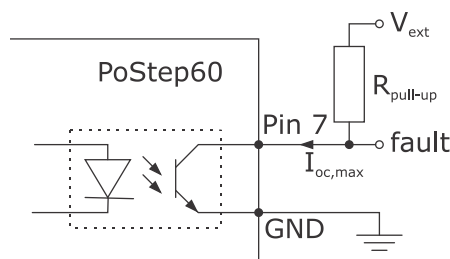

Figure 2: Fault feedback pin connection diagram
*Fault feedback signal is an open-colector signal. External pull-up resistor is needed to function properly (please see Figure 2). For input and open-collector output limiting values please refer to Section 6 - Technical specifications.